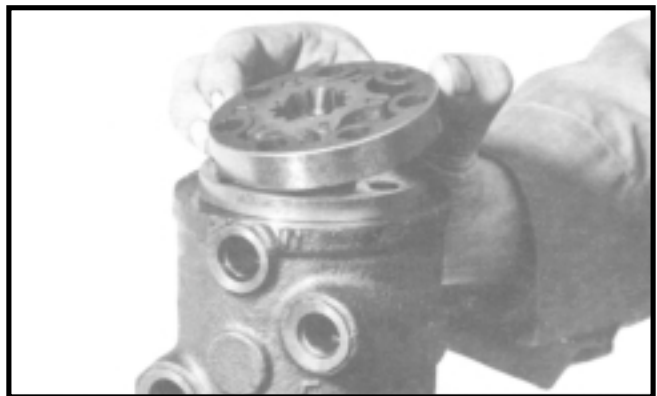

Figure HGA-9
7. Remove the manifold (32) from the rotor set (31) by sliding and lifting motion.
8. Remove the rotor set (31), spacer (29) and drive link (30) as an assembly by grasping the spacer and removing the assembly with a sliding and lifting motion. (See Figure HGA-9).